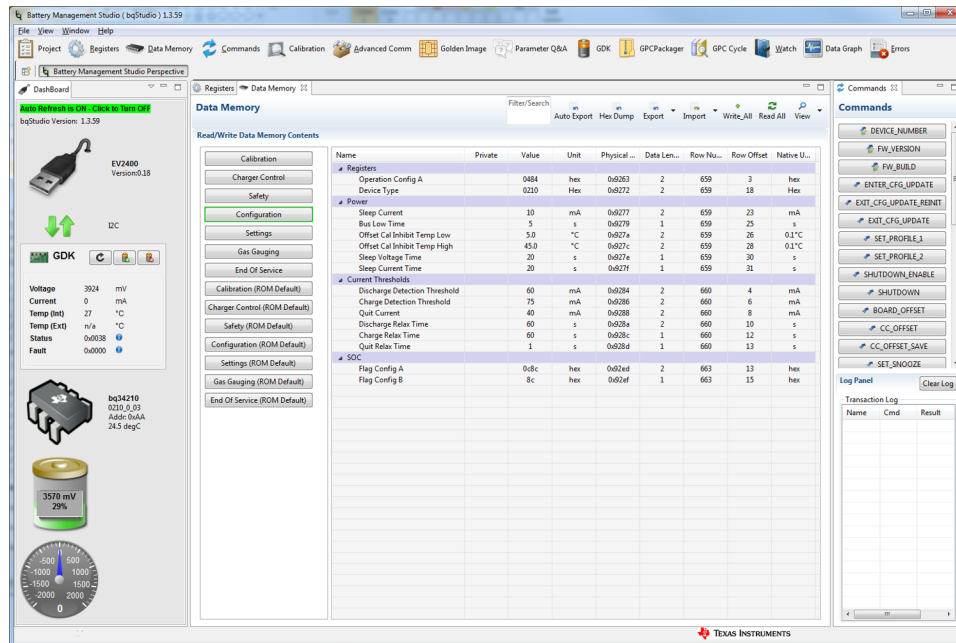

Figure 3. Data Memory Window
**NOTE:** The correct setting of these options is essential for the best performance. Configure the settings using the *Data Memory* window (Figure 3).